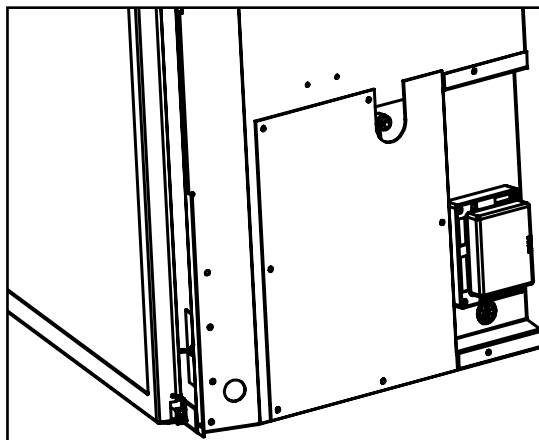

Figure 31: Gas Connection Location.
- A $\frac{3}{8}$ " 45° flared fitting and flex connector are supplied with the unit (see Figures 31 and 32). Consult the local authorities for local codes or use the CAN/CGA B149 (1 or 2) installation code in Canada. In the US, gas installations follow either local codes or the current edition of the National Fuel Gas Code ANSI Z223.1.
1. Using the supplied hardware install a Trimmable Panel Bracket, on its short leg, onto each side of the stove using a T-20 Torx screwdriver. See Figure 31 for the screw location and bracket orientation.